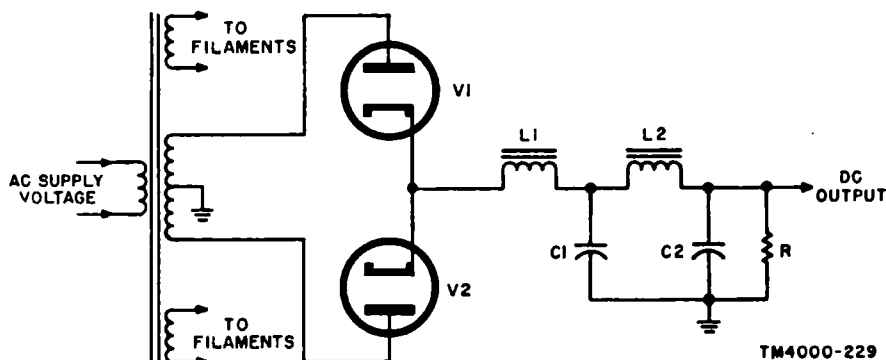

Figure 56. Full-wave rectifier power supply, schematic diagram.
b. The most widely used power supply is the full-wave type (fig. 56). The rectifiers are often contained in the envelope of one tube. Troubleshooting is done almost entirely by voltage and resistance measurements.